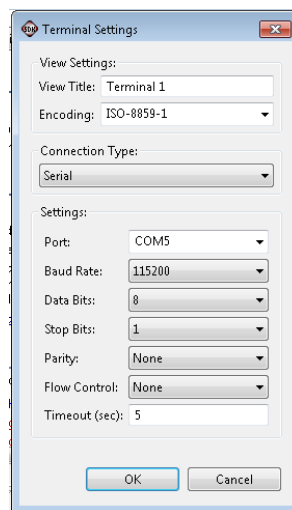

Figure 240: Terminal Settings
- d) Change the Baud Rate to 115200 (Figure 240).